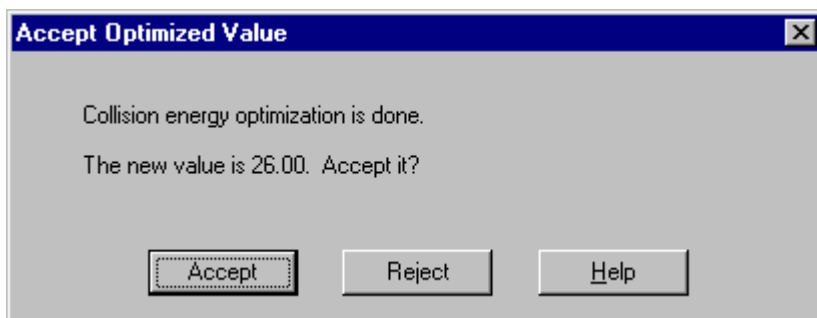

Figure 42. Accept Optimized Value dialog box
4. When the collision energy is optimized, the Accept Optimized Value dialog box appears. See Figure 42.